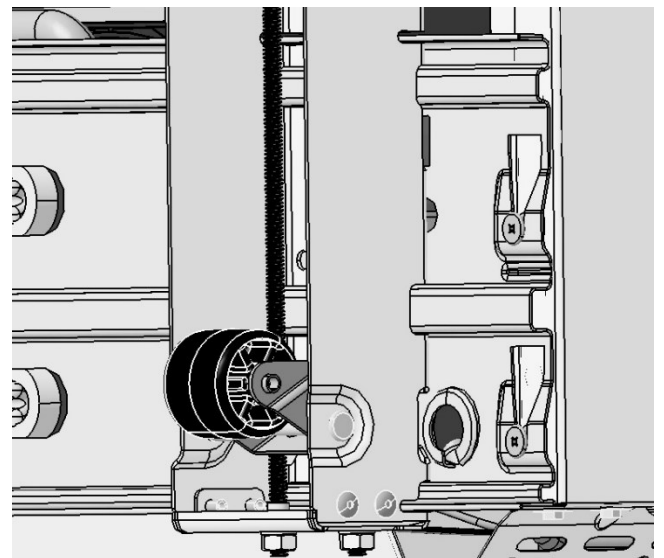

Figure 3
- Fit the first Leveler Assembly onto a refrigerator/freezer as shown in Figure 3: